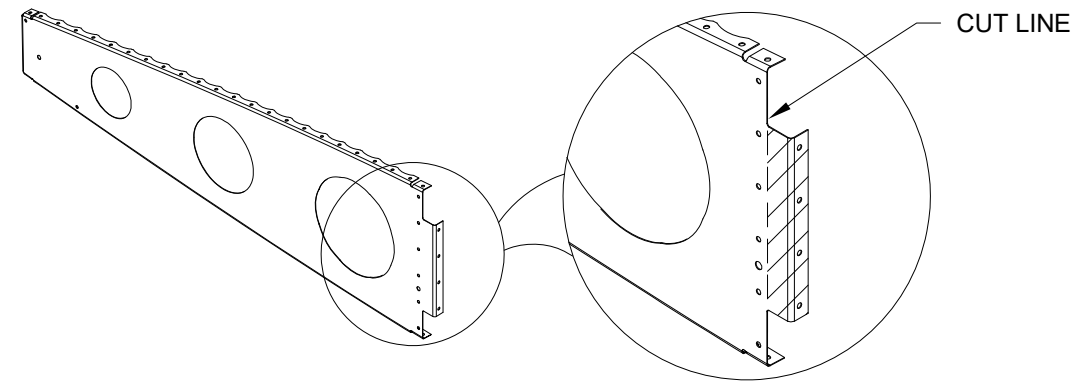

FIGURE 1: W-1210-1 MAIN RIB FWD FLANGE TRIM (LEFT SHOWN)
Step 2: Select six of the 13 W-1210-L-1 Main Ribs and trim the fwd flange as shown in Figure 1.
Step 3: Trim the forward flange of all 13 W-1210-R-1 Main Ribs as shown in Figure 1.